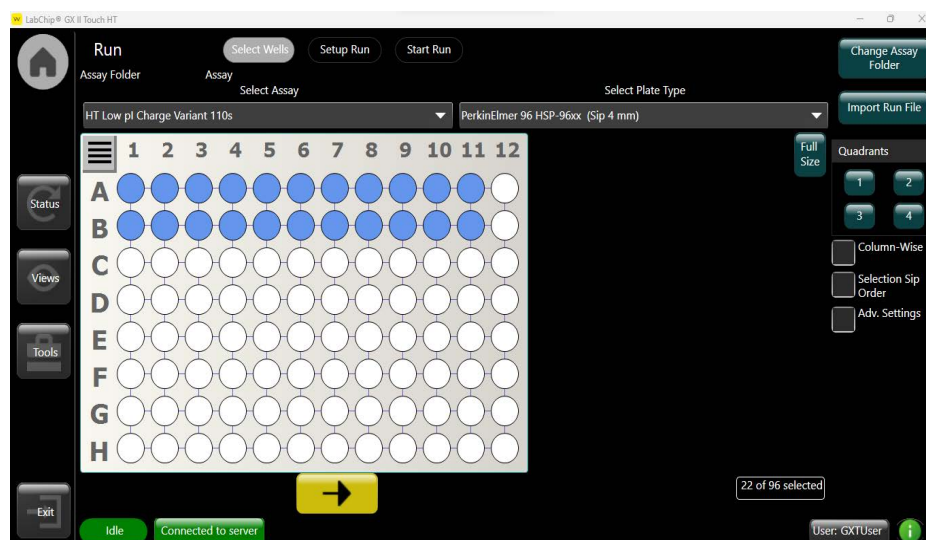

Figure 9. Select Wells Screen
- 2 In the Select Wells screen, select the appropriate **Assay Type**, **Plate Type**, **Well Pattern**, and whether to read wells in **Columns or Rows**. Refer to Table 7 for Assay Type and Running Buffer pH. Select the number of times each well is sampled under *Adv. Settings* (Figure 9). Touch the green arrow.